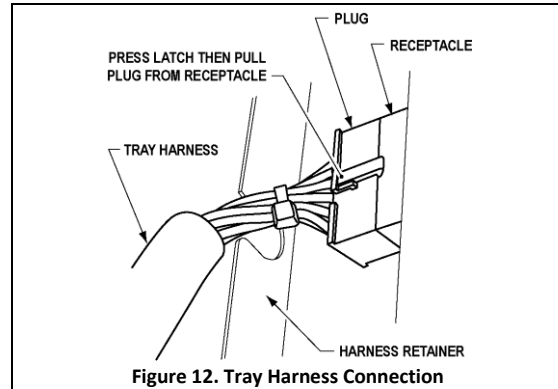

Figure 12. Tray Harness Connection
2. Disengage the tray harness from its retainer on the right side wall. See Figure 12. Disconnect the tray plug from its receptacle the harness retainer on the right sidewall.
12. Re-engage the tray harness into its harness retainer (See Figure 12).
2. Disengage the tray harness from its harness retainer on the right side wall. See Figure 12. Disconnect the tray plug from its receptacle on the right side wall.
3. Remove and save the six (6) screws that fasten the tray to the left and right slides. Lift up and forward to remove the tray.